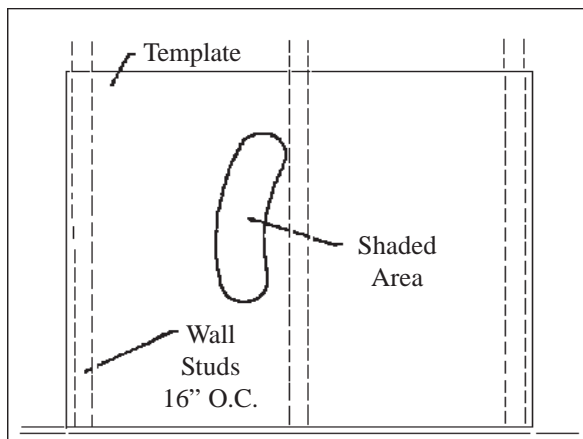

FIGURE 4
- Select area on wall where heater will be installed. Using template (packed with heater) mark shaded area where hole can be cut and to locate the wall brackets. (See Figure 4).
- Mark location for 3-1/2" diameter hole between studs. Hole should be offset to miss studs. (See Fig. 4).